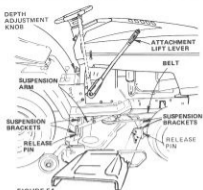

FIGURE 54
2. Pull the four (4) Release Pins out of Suspension Brackets (Fig.54).
NOTE: IF AN ATTACHMENT OTHER THAN THE MOWER DECK IS TO BE MOUNTED ON THE TRACTOR, THE L.H. AND R.H. SUSPENSION ARMS (FIG. 54) SHOULD BE REMOVED FROM TRACTOR.